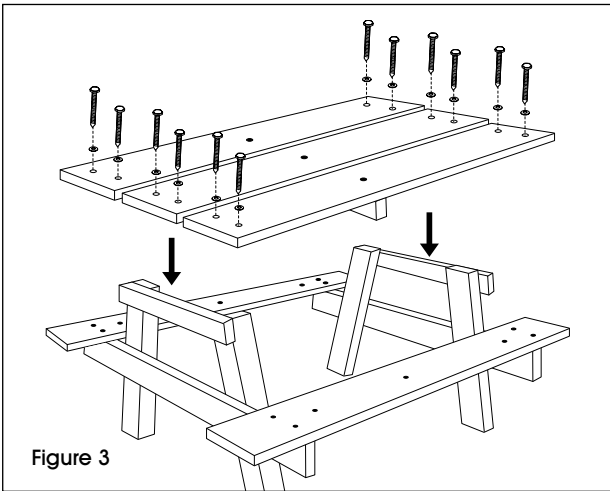

Figure 3
6. Place the three tabletop boards on the A-Frame bases. Align the pre-drilled holes with the A-Frame base. Loosely attach tabletop board slats to A-Frame base with the 3½" lag screws and washers using the power drill and 7/16" socket bit (will tighten later in step 9). (See Figure 3)